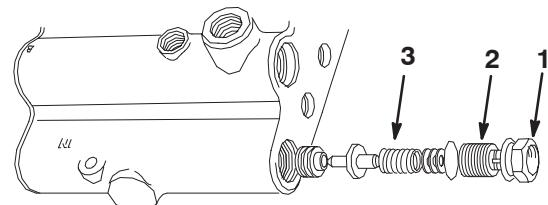

Figure 17
- Remove the gray lift pressure spring from the lift control valve and replace it with the green spring included in the kit (Fig. 17). Retain the gray spring to reinstall if the rotary brush is removed.